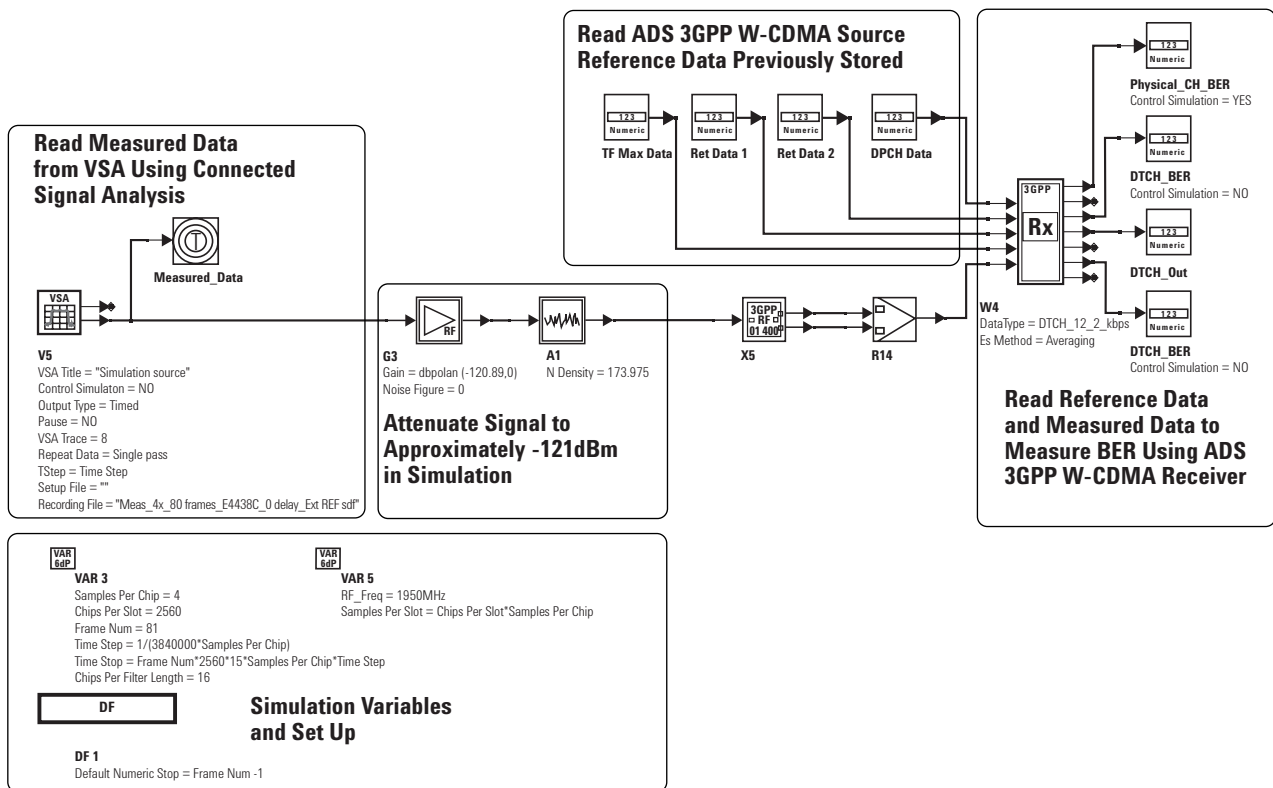

Figure 30. ADS Schematic to Read Recorded Measured Data and Measure BER
Step 5. The schematic to measure BER is shown in figure 30. The 89600 software simulation source is configured to read the previously recorded measured data. The measured signal is then attenuated in simulation to a level of -121 dBm, which is the basestation receiver sensitivity level defined in the 3GPP specifications. The attenuated measured signal is then demodulated to remove the carrier frequency and input into the ADS 3GPP WCDMA receiver to be used as the test signal for the BER measurement. Numeric signal generators are also configured to read the previously stored reference data from the ADS 3GPP simulation signal source. These are also input into the ADS 3GPP WCDMA receiver to be used as the reference data for the BER measurement.